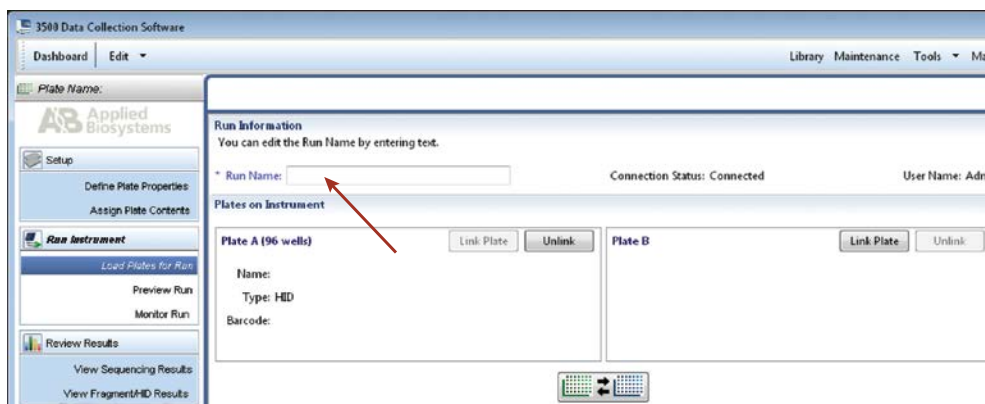

Figure 11. Assigning a run name.
- In the Run Information window (Figure 11), assign a Run Name. Select “Start Run” (not shown).